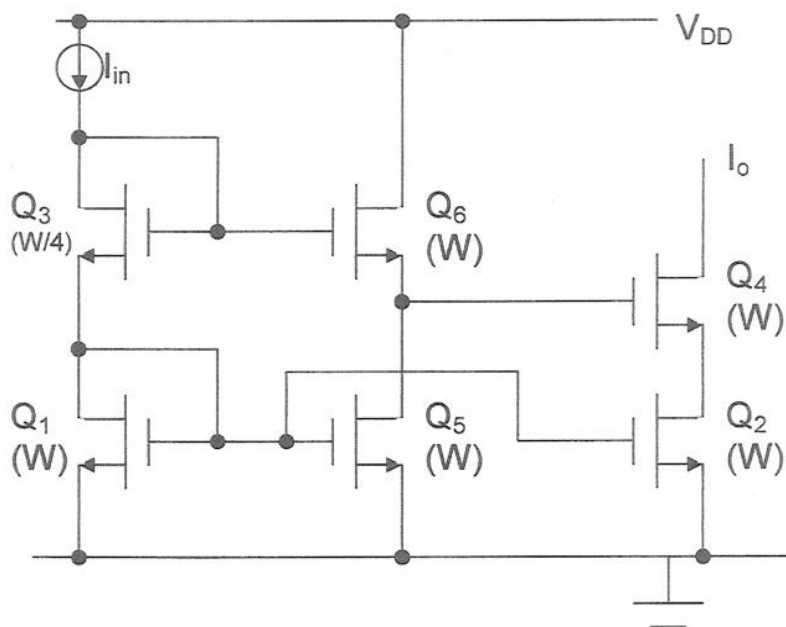

Figure 4.2
- (b) For the current mirror of Figure 4.2 derive this voltage swing in terms of device threshold voltage V_T , clearly stating any assumptions you make. [7]